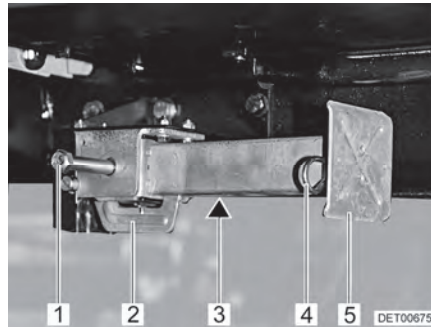

Fig. 29 Steady leg
- Place the socket spanner on the hexagon nut (Fig. 29,1) and rotate until the steady leg is in a perpendicular downward position.
- If the length of the steady leg can be adjusted, remove the splint (Fig. 29,4) out of the support foot extension (Fig. 29,5).
- Place the socket spanner on the hexagon nut (Fig. 29,1) and rotate until the steady leg is clear of the ground.
- Push in the support foot extension (Fig. 29,5) and insert the splint (Fig. 29,4) in the drilled hole in the support foot extension.
- Rotate the hexagonal nut (Fig. 29,1) until the steady leg has swung upwards and the guide (Fig. 29,2) has reached the very end of the slot (Fig. 29,3).